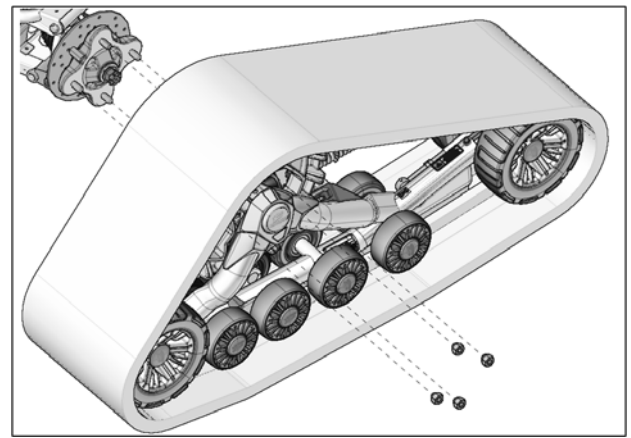

Fig. 7
- Secure undercarriage to rear hub using the vehicle's wheel nuts. See Fig. 7